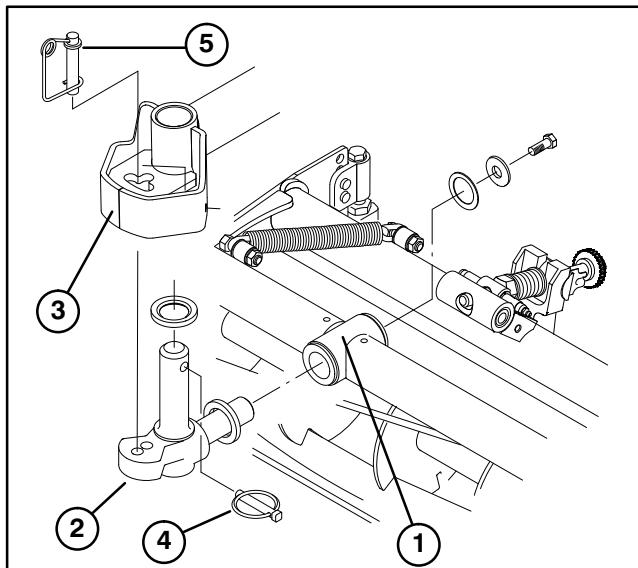

Figure 4
6. Insert a thrust washer onto horizontal shaft of pivot knuckle as shown in figure 4.
7. Insert the horizontal shaft of the pivot knuckle into the mounting tube of the carrier frame (Fig. 4).
8. Secure pivot knuckle to carrier frame with a thrust washer, flat washer and a flange head capscrew (Fig. 4).
9. Insert a thrust washer onto vertical shaft of pivot knuckle (Fig. 4).
10. Insert the vertical shaft of the pivot knuckle into lift arm pivot hub (Fig. 4). Guide the pivot knuckle in place between the two rubber centering bumpers in the under side of the lift arm steering plate.
11. Insert the lynch pin into the cross hole on the pivot knuckle shaft (Fig. 4).
17. Insert steering pin into one of the following pivot knuckle mounting locations (Fig. 4):
18. Hook spring wire around bottom of steering pin (Fig. 4).